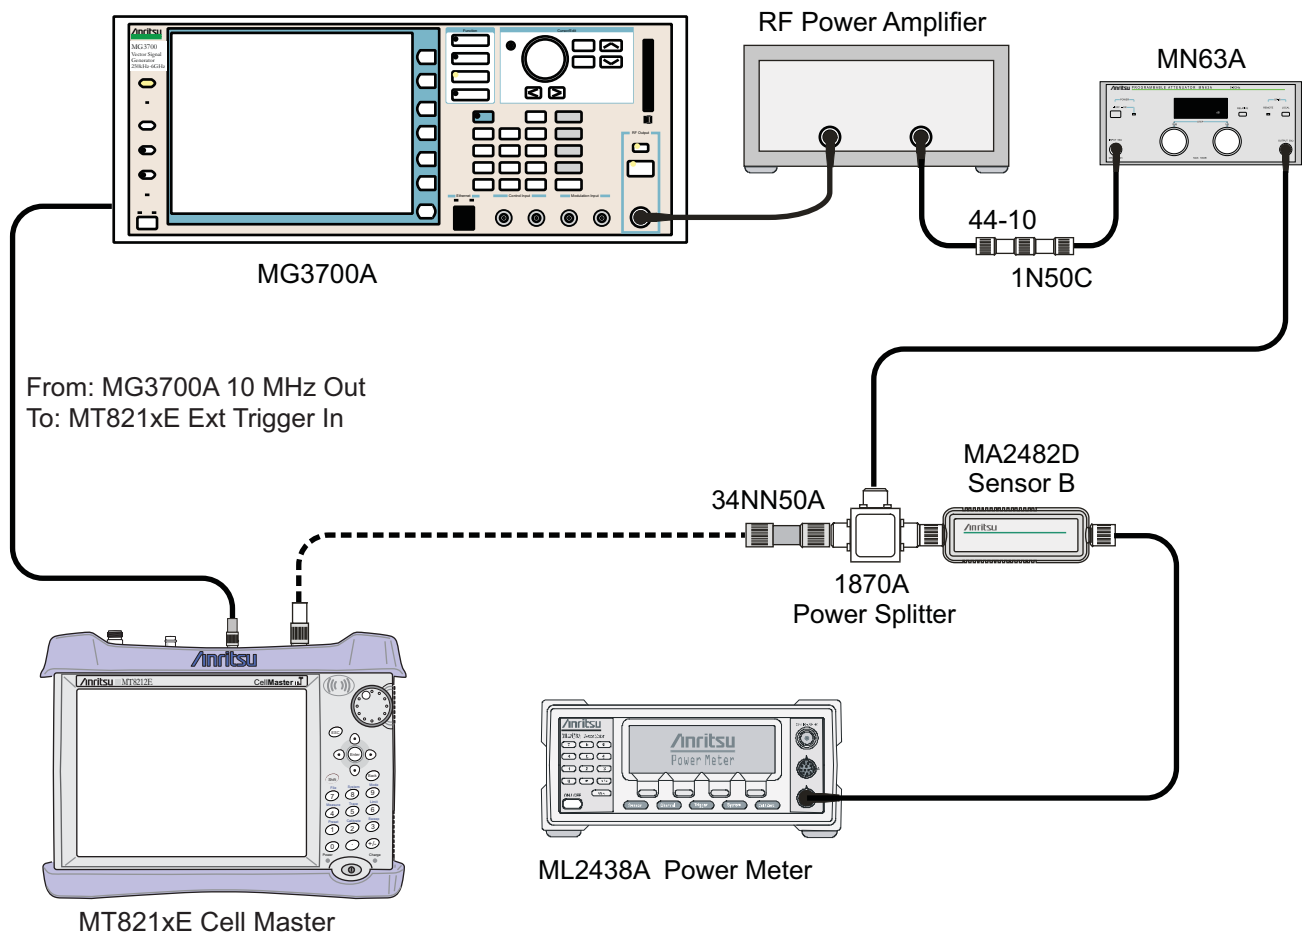

Figure 5-3. ISDB-T Level Accuracy and 1 dB Compression Level Post-test Setup
15. Remove Sensor A from the Power Splitter and then connect the Power Splitter to the MT821xE Spectrum Analyzer RF In with an N male to N male adapter as shown in Figure 5-3.
13. Remove Sensor A from the splitter and connect the MT821xE RF In to the open end of the splitter using an adapter as shown in Figure 5-3.